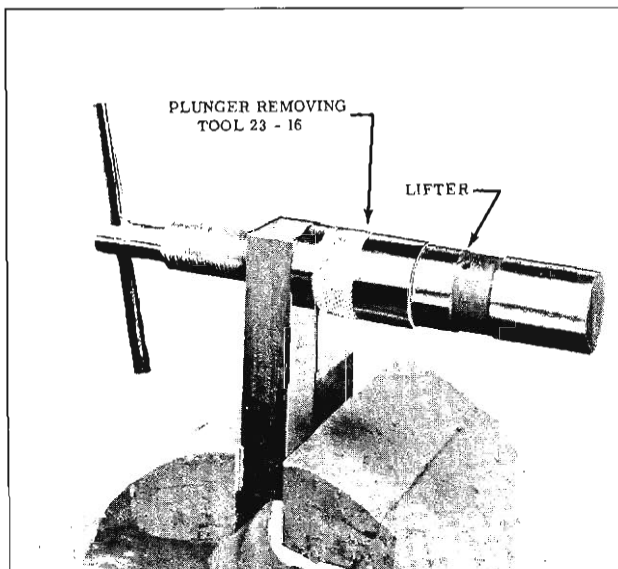

Fig. 3-14 Removing Plunger
3. Remove plunger and plunger spring. If plunger is stuck tight, allow lifter to soak in cleaning solvent for approximately five minutes, then remove plunger. Tool 23-16 may be used if plunger does not fall out. (Fig. 3-14)